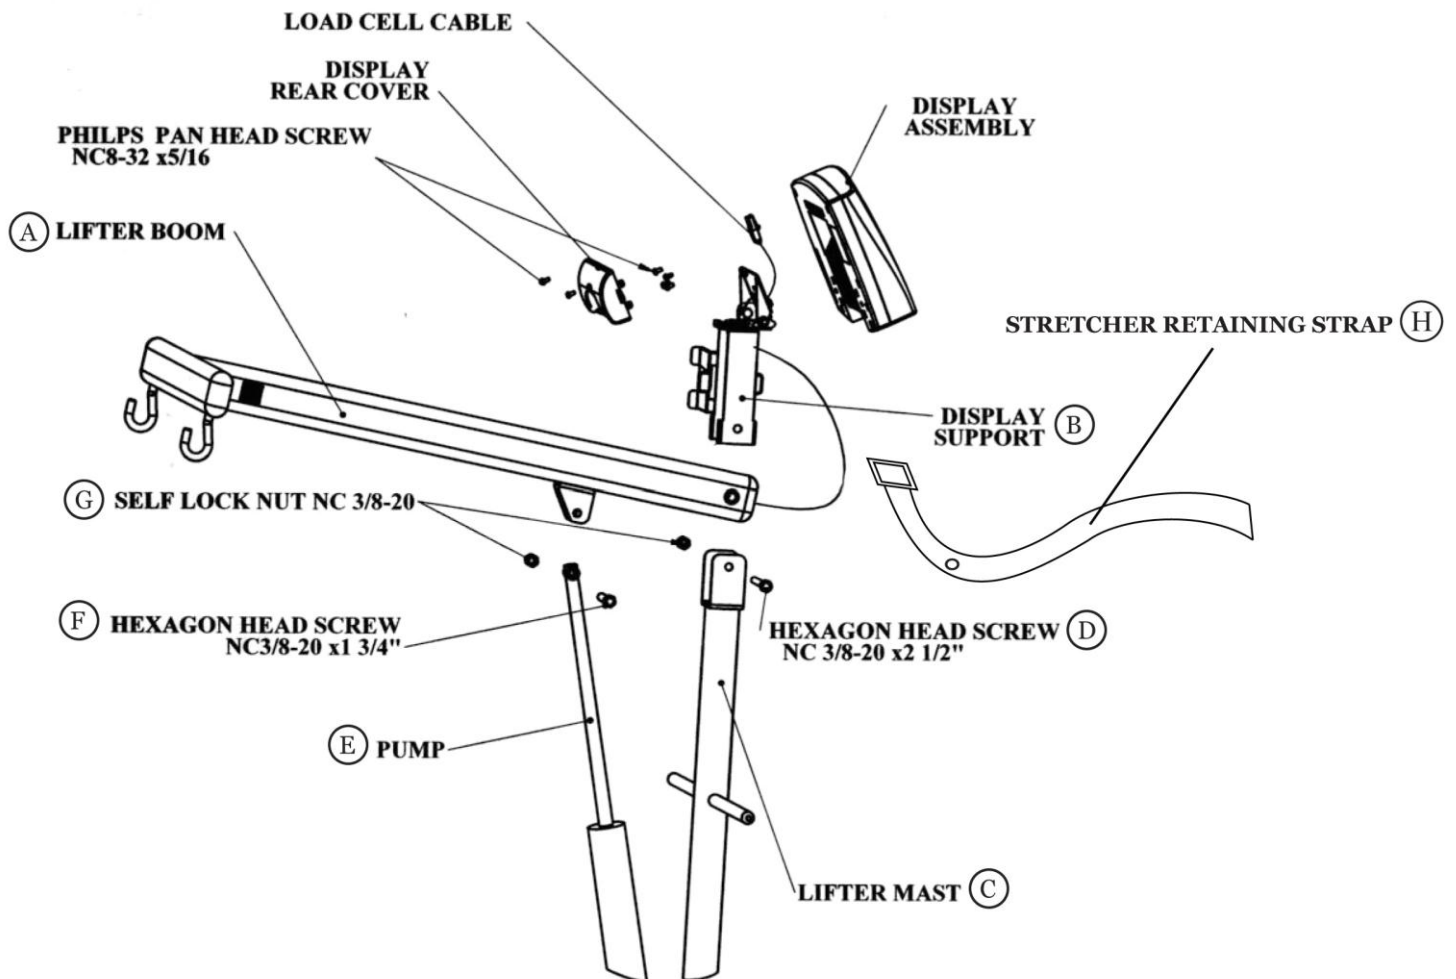

Figure 3
4. Referring to Figure 3 on page 8, connect the Lifter Boom (A) and the Display Support (B) to the Lifter Mast (C) using the NC $\frac{3}{8}$ -20x2 $\frac{1}{2}$ " hexagon bolt and large self lock nut (D). Be sure to insert the NC $\frac{3}{8}$ -20x2 $\frac{1}{2}$ " hexagon bolt through the Stretcher Retaining Strap (H) eyelet hole before you attach the display support and lifter boom to the lifter mast. **Note:** This screw is on the axis of the Lifter Boom, so it is imperative that the three parts – Lifter Boom, Lifter Mast and Display Support – are assembled in the proper order. With the Boom hooks facing down, place the Lifter Boom (A) inside the two sides of the Lifter Mast (C) and align the holes. Place the Display Support (B) over the Lifter Mast (C) and Lifter Boom (A) and align the holes. Thread the screw through all three parts and tighten the self lock nut on the other side well.
5. Insert the shaft end of the Pump (E) into the eared bracket on the Lifter Boom (A) and align the holes. Slip the 1-3/4" screw (F) through the bracket and the Pump shaft hole. Tighten with a locknut (G).